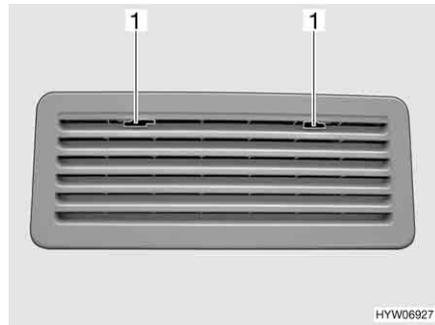

Fig. 164 Refrigerator ventilation grill
- Move the locking device (Fig. 164,1) to the middle.